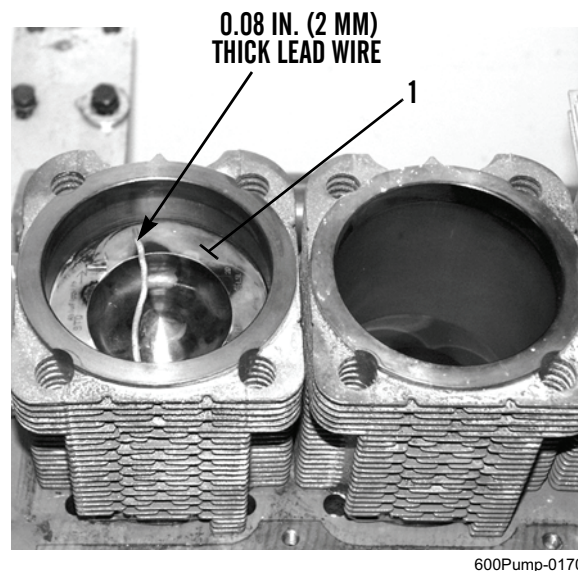

Figure 1. Placing Lead Wire Across Piston.
1. Place lead wire across piston (Figure 1, Item 1) in a transverse direction to engine axis.